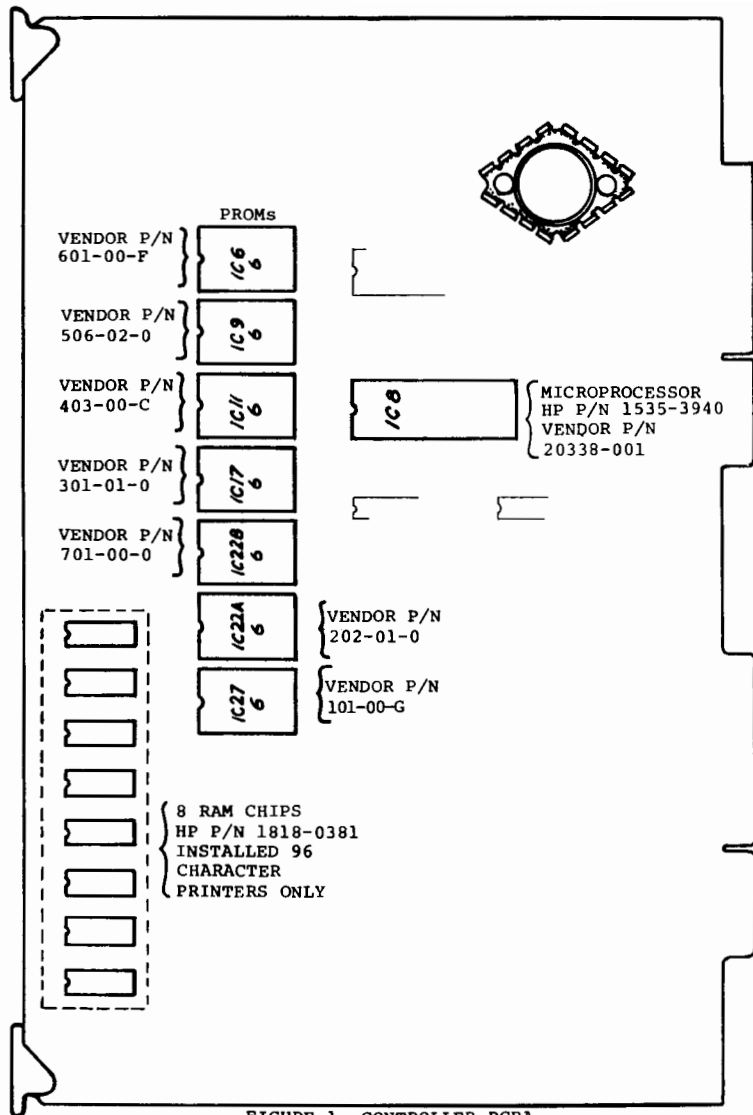

FIGURE 1 CONTROLLER PCBA
- a. Install microprocessor chip (HP P/N 1535-3940 or vendor P/N 20338-001) in 40 pin socket. See figure 1 for location and orientation.
- b. Install the 7 PROM chips in 24 pin sockets. See figure 1 for location and orientation.
Install 8 RAM chips (HP P/N 1818-0381) in 18 pin sockets. See figure 1 for location and orientation.